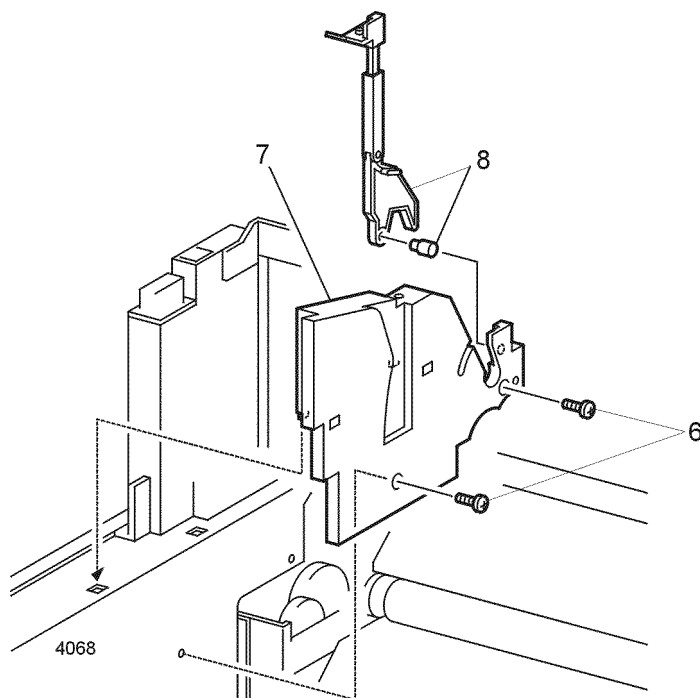

Figure 1 Left Print Cartridge Guide Assembly
6. Remove the two screws that secure the Print Cartridge Left Guide Assembly to the printer (Figure 1).
7. Remove the Print Cartridge Left Guide Assembly from the printer (Figure 1).
8. Remove the Left Guide Link Assembly and Pin Link from the printer (Figure 1).